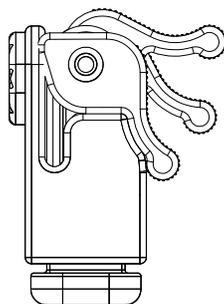
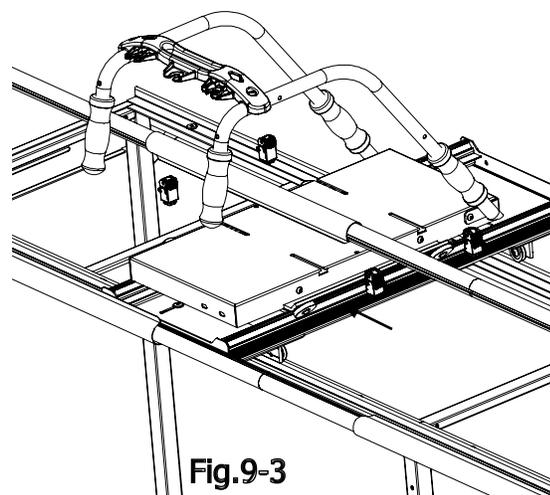

Fig.9-2
Fig.9-3
9-2: Pull the Sewing Machine Clamp Handle in the open position slide it into the slot on the Top Plate until it is touching the sewing machine. Push the handle down to lock the Clamp into position, as shown in Fig. 9-2 and Fig. 9-3. Repeat this with the remaining (3) clamps.